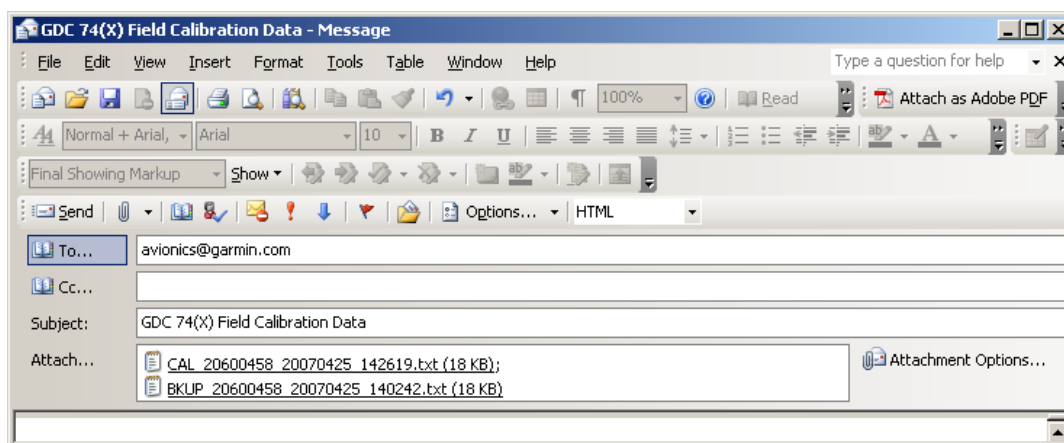

Figure 5-18. Example Post-Calibration E-mail
Save copies of the calibration (BKUP and CAL) files for permanent storage. These files are located in the C:\Garmin directory, or in the same directory where the GDC_FieldCal.exe file resides. Email copies of these files to avionics@garmin.com. Please enter “GDC 74(X) Field Calibration Data” in the subject line, as shown in Figure 5-18.